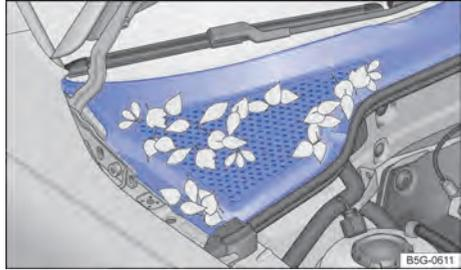

Fig. 208 Between the engine compartment and the windshield: plenum chamber (schematic representation).
- The plenum chamber is located in the engine compartment between the windscreen and the engine and has a perforated cover → Fig. 208. Air from outside is drawn in from the plenum chamber and is passed into the vehicle interior via the heating and fresh air or the air conditioning system.